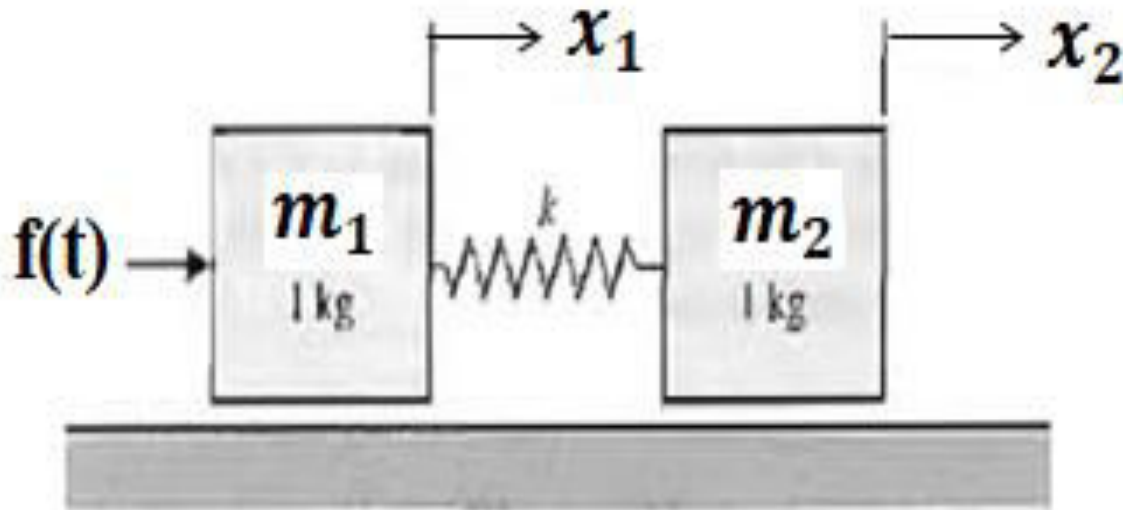

Fig.3.1: Two connected masses on a frictionless surface.
1. Determine the transfer function $X_2(s)/F(s)$ for the system shown in Figure 3.1. Both masses slide on a frictionless surface, and $k = 1 \text{ N/m}$.
- As it is shown in figure 3.1, a circle with a cross is the symbol that indicates a summing operation. The plus or minus sign at each arrowhead indicates whether that signal is to be added or subtracted.
- Figure 3.1 shows an example of a block diagram of a closed-loop system. The output $Y(s)$ is fed back to the summing point, where it is compared with the reference input $R(s)$.
➤ Referring to Figure 3.1, the ratio of the feedback signal $B(s)$ to the actuating error signal $E(s)$ is called the *open-loop transfer function*.
- Referring to Figure 3.1, the ratio of the output signal $Y(s)$ to the actuating error signal $E(s)$ is called the *feed forward transfer function*. That is,
Referring to Figure 3.1, the ratio of the output signal $Y(s)$ to the reference input signal $R(s)$ is called the closed-loop transfer function.